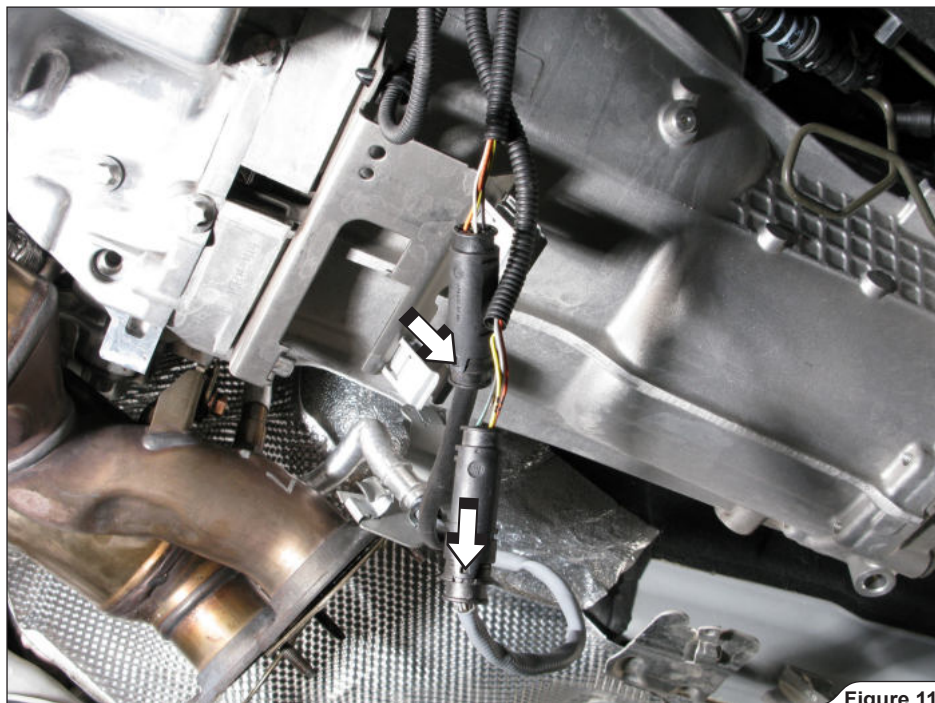

Figure 11
10. For optional Down Pipes: disconnect the rear lambda sensors' connectors (Figure 11).